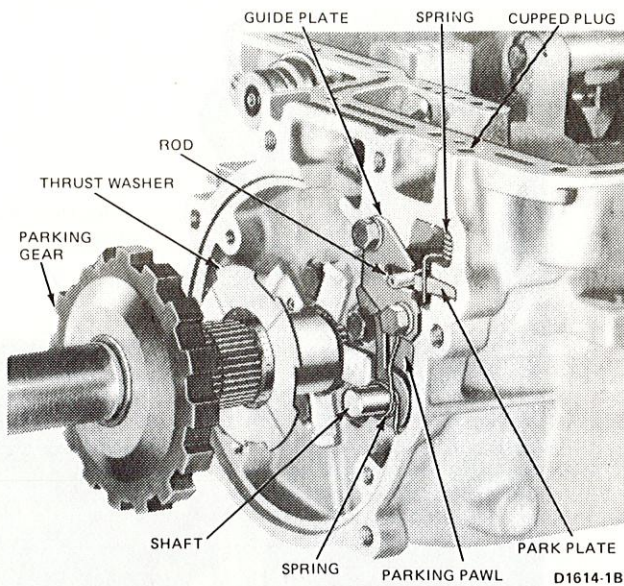

FIG. 28 Parking Pawl Mechanism
1. Remove the bolts securing the parking pawl guide plate to the case (Fig. 28). Remove the plate.